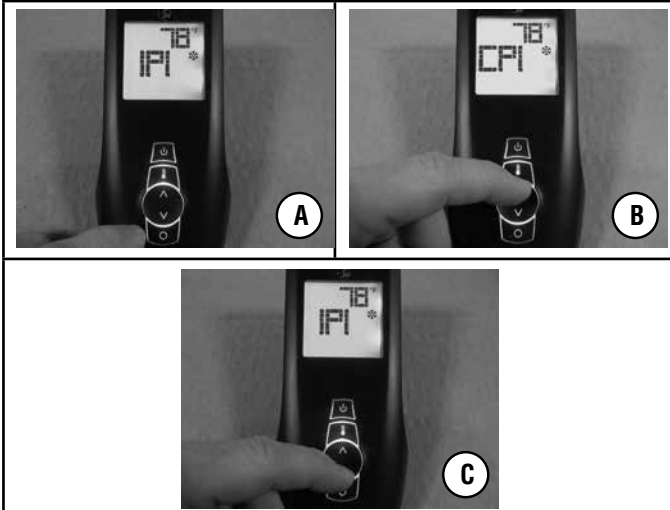

Figure 25 - Remote Control Operation from CPI to IPI Modes
1. With power ON, (A) press “O” on the remote handheld. “IPI” will be on the remote screen. (B) Press UP arrow to move “IPI” to “CPI” and (C) Press DOWN to move “CPI” back to “IPI” (must be completed within 10 seconds). See **Figure 25** and **26**.